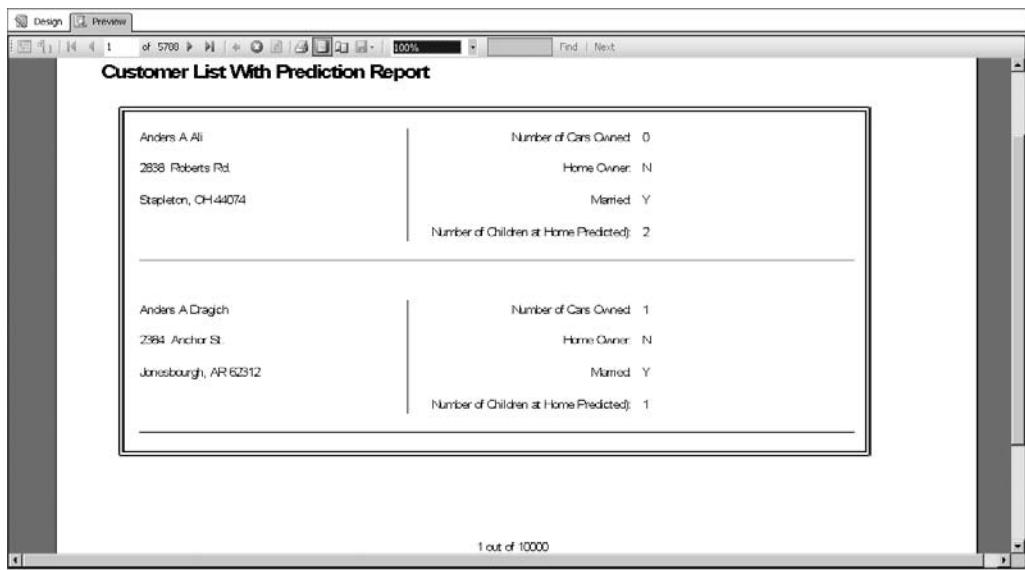

Figure 16-43 A page from the Customer List With Prediction Report print preview
87. Click the Print Layout button on the Preview tab toolbar. A print preview of the report is created. This takes a minute or so to complete. The print preview appears as shown in Figure 16-43.